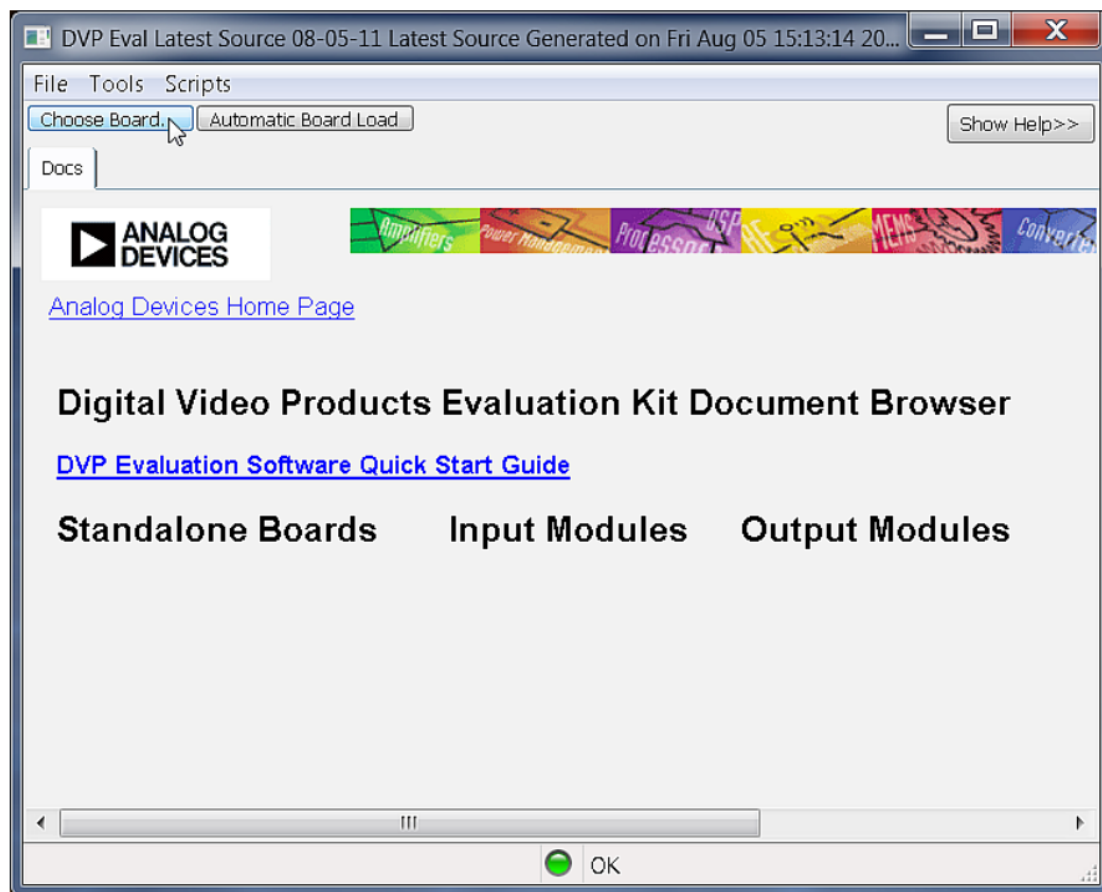

Figure 7. Initial screen of DVP Eval Software
9. Initial screen on launching the DVP Eval Software is shown on Figure 7. At this stage it may be necessary to update your install with the Board Files for the evaluation platform you intend to work on.